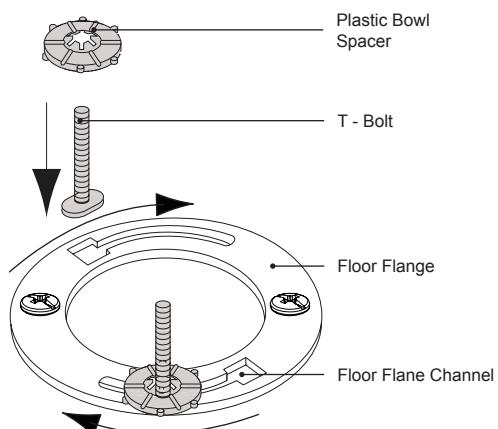

Figure 2
- ① Before installing a new wax gasket, install flange T-bolts and bowl nuts onto toilet flange (Figure 2).
- ② Place the flat head of the T-bolt into the opening on the floor flange.
- ③ Slide the T-bolt along the floor flange channel until it stops at the end of the channel and is sitting vertically (straight up and down).
- ④ Thread on the plastic bowl spacer until it is resting on the floor flange.